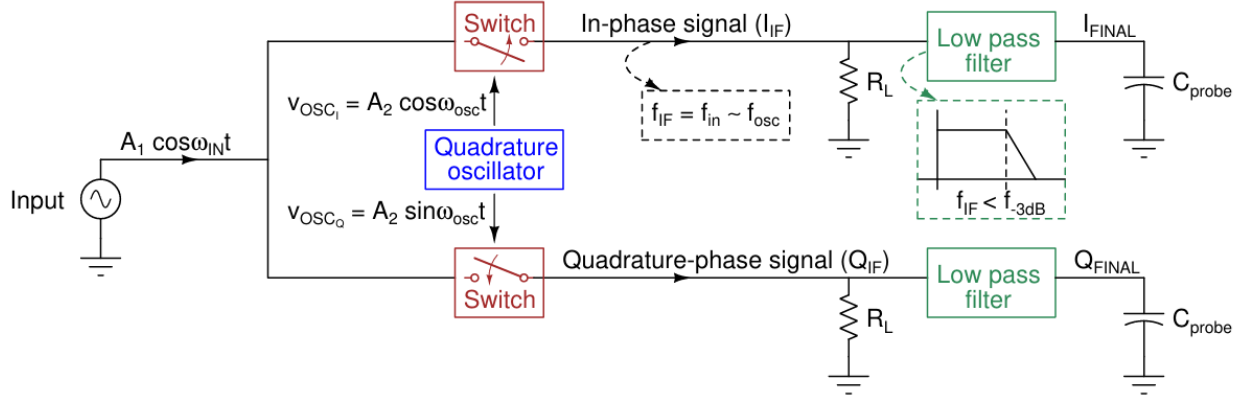

Figure 1: Block Diagram of QDC
Fig. 1 depicts a quadrature down converter (QDC) that is commonly used in modern-day wireless receivers (RX) such as Bluetooth, Wi-Fi and WLAN. Quadrature downconversion helps in interference mitigation and improves the quality of communication. In this project, we will implement a prototype of QDC for the given specifications.
As shown in Fig. 1, the input signal $v_{in} = A_1 \cos(\omega_{in} t)$ is mixed with $v_{OSC_I} = A_2 \cos(\omega_{OSC} t)$ and $v_{OSC_Q} = A_2 \sin(\omega_{OSC} t)$ to produce in-phase (v_{IF_I}) and quadrature-phase (v_{IF_Q}) intermediate frequency (IF) signals, respectively. The in-phase and quadrature-phase signals have a phase difference of 90° . Mixing of two signals is equivalent to their multiplication, as shown below.
As shown in Fig. 1, the mixed signal is fed to a low-pass filter to pass only the IF signal with frequency $\omega_{IF} = \omega_{IN} - \omega_{OSC}$, which can be made sufficiently low value for sufficiently high values of ω_{IN} and ω_{OSC} . For example, if $f_{IN} = 2.4$ GHz and $f_{OSC} = 2.401$ GHz, then $f_{IF} = 1$ MHz.
Connect all building blocks (oscillator, mixer, filter) and make the complete circuit shown in Fig. 1. Clearly show and tabulate all component/supply values in the schematic.